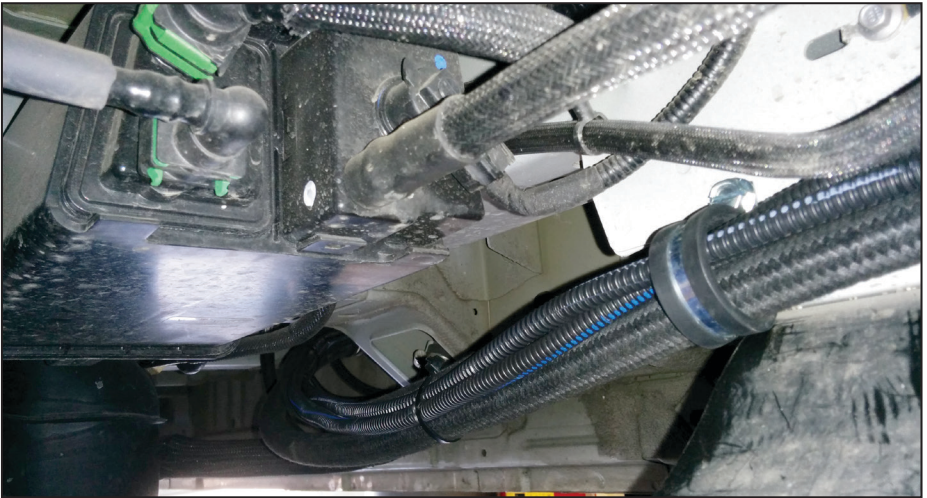
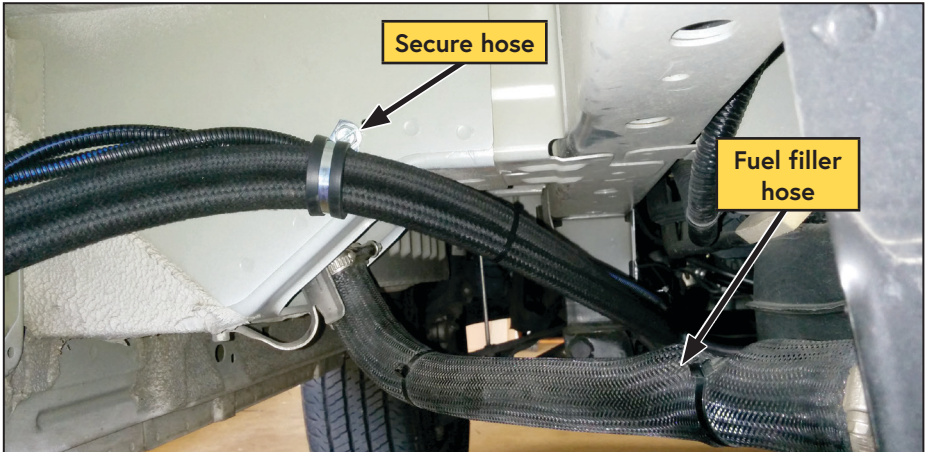

Figure 36 — Hose routing continued
Figure 37 — Hose routing above fuel filler hose
- Route the hoses above the fuel filler hose and toward the rear of the fuel filler housing (Figure 36, Figure 37).
- Secure the hose using the supplied P-clip and 5/16 in x 3/4 in sheet metal screw, in the location shown (Figure 37).